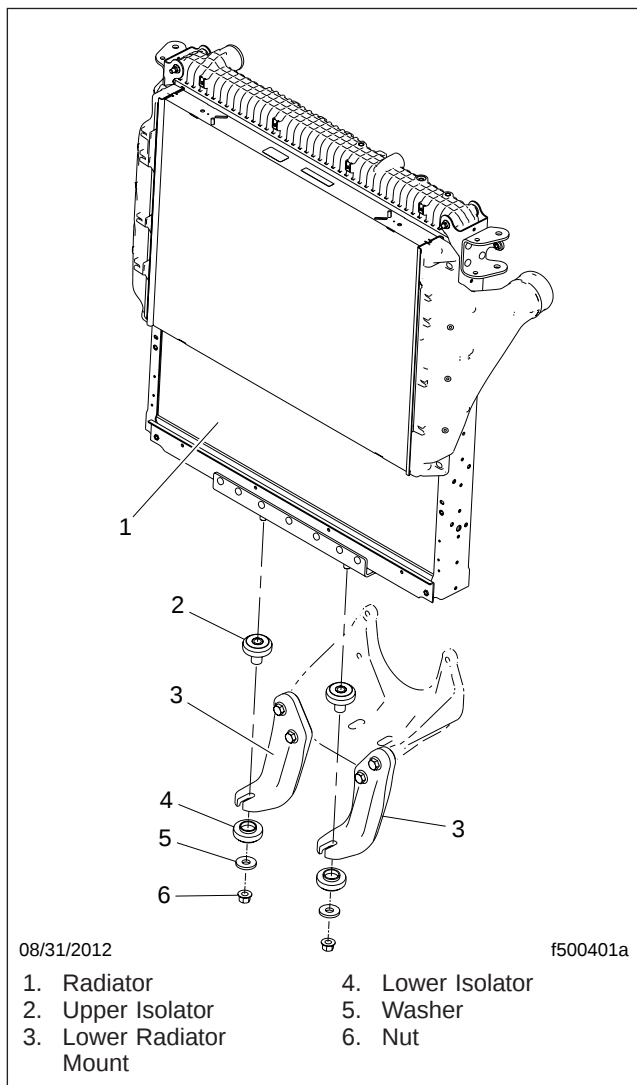

Fig. 13, Radiator Installation
33. Using an appropriate lifting device, position the new radiator assembly in the vehicle. Install the mounting nuts, but do not tighten them at this time. See Fig. 13.